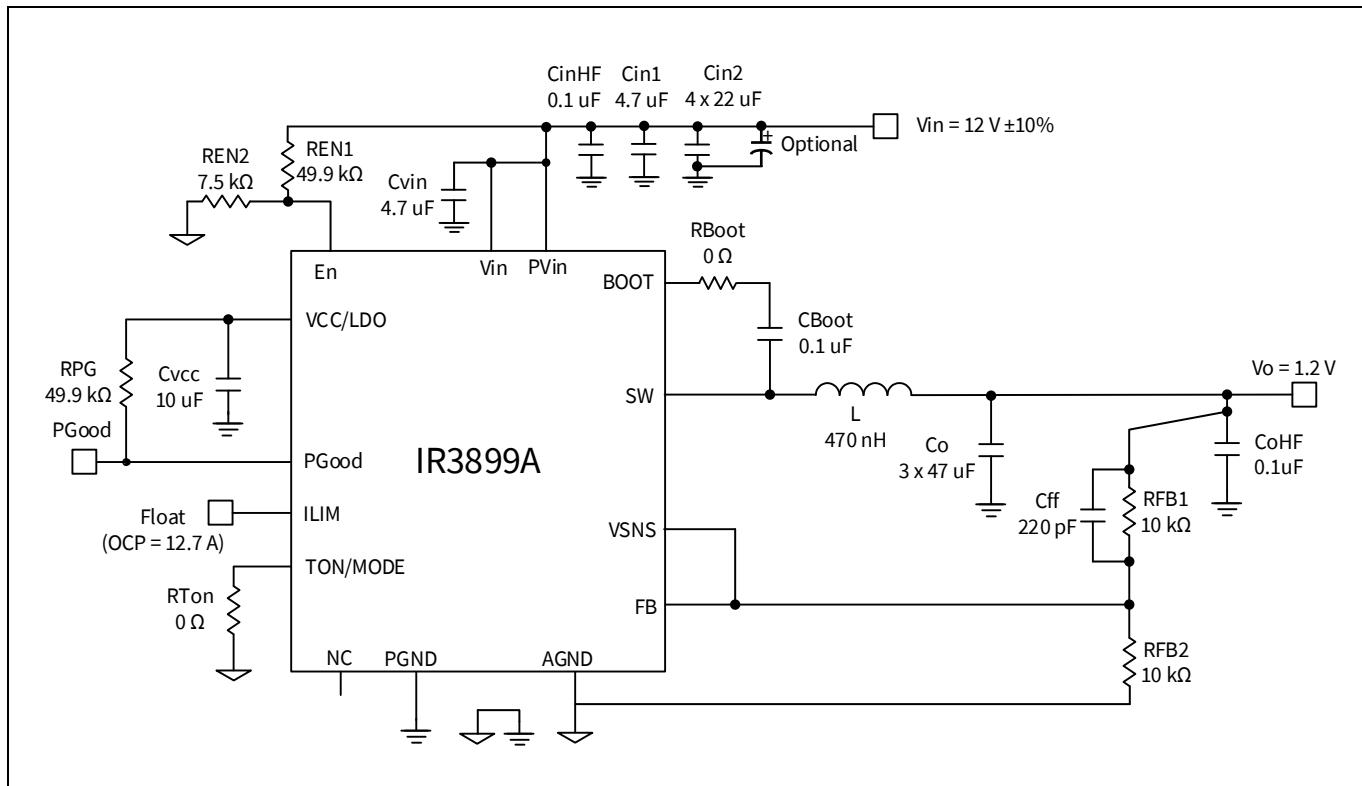

Figure 13 Application diagram of IR3899A. $P_{VIN} = 12 \text{ V}$, $V_o = 1.2 \text{ V}$, $I_o = 9 \text{ A}$, $f_{SW} = 600 \text{ kHz}$.
In this section, an example is used to demonstrate how to design a buck regulator with the IR3899A. The application circuit is shown in Figure 13. The design specifications are given below:
- To implement the V_o sensing, the following design guidelines should be followed, as illustrated in Figure 13.